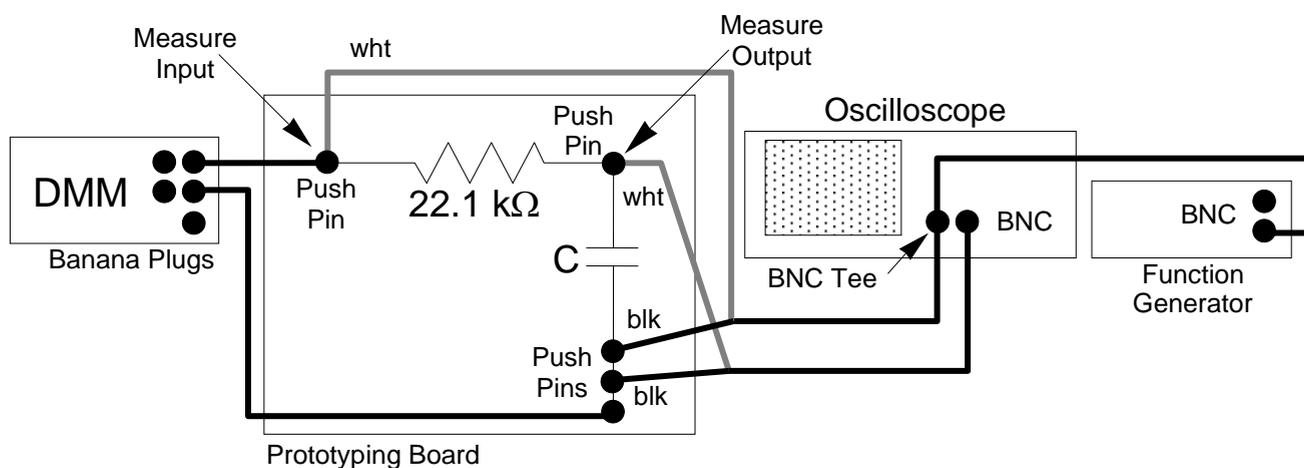
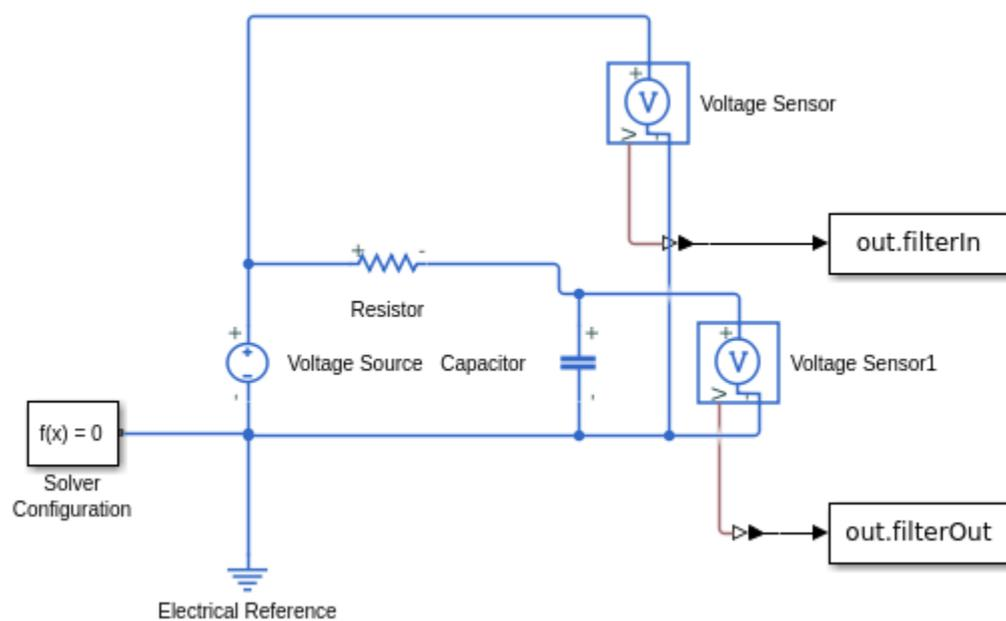

Figure 6: Wiring for Measuring Gain and Phase Shift of Low-Pass, RC Filter
Figure 7: Simulink Diagram for Simulating Gain and Phase Shift of Low-Pass, RC Filter
- In the physical lab, we would wire the circuit as in Figure 6. To simulate this in Simulink, create the diagram as in Figure 7.
- Connect the blocks as in Figure 7. Here, note that two overlapping links are connected only if there is a solid dot in their intersection. Otherwise they are not connected. *Solver Configuration* box comes as default whenever you launch Simscape-Electrical from your Simulink start page. It contains the properties of the solver